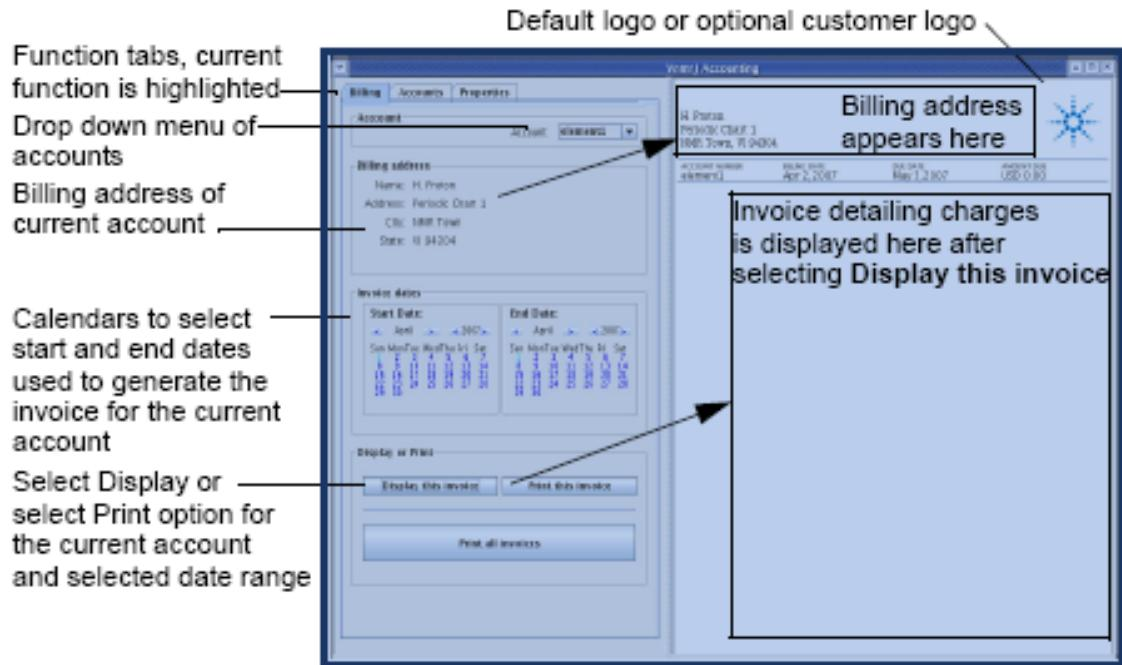

Figure 7 VnmrJ 3.2 accounting billing window
Click the **Billing** tab to open the Billing window. See Figure 7.
- a Click the **Display this invoice** button to display the invoice on the right side of the Billing tab; see Figure 7 on page 109.